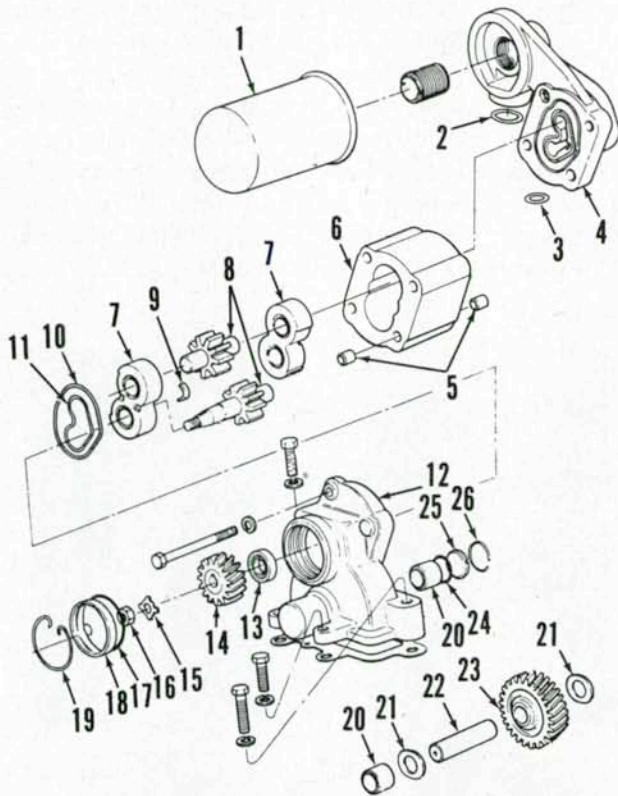
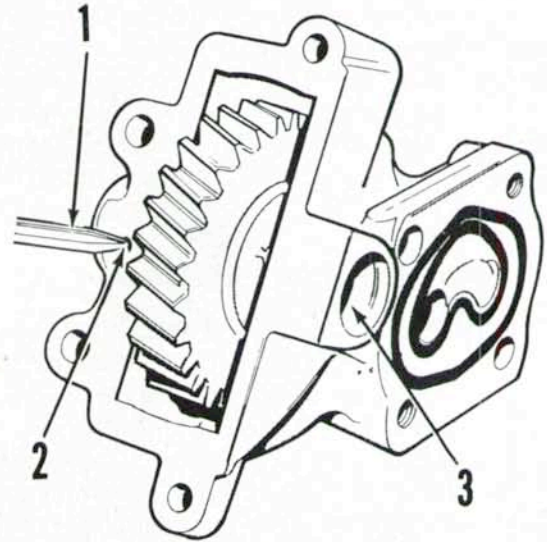
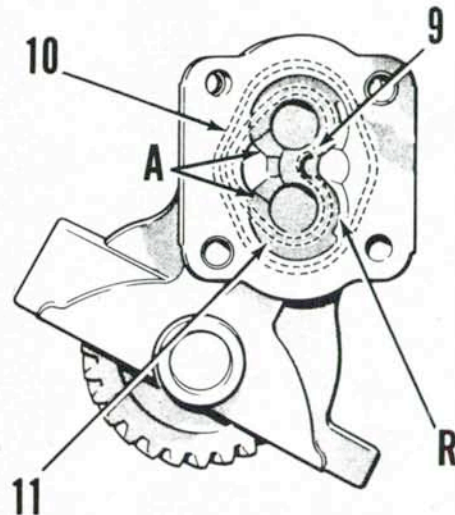

Fig. 319—Exploded view of auxiliary hydraulic pump assembly.
Fig. 320—If necessary, idler shaft plug (3) can be removed from housing by applying compressed air at bleed hole (1).
Fig. 321—When reassembling pump, be sure that recess (A) on bearings faces the gears and radius (R) is on outlet side of pump.
**238. OVERHAUL PUMP.** Prior to disassembly, scribe alignment marks on gear housing (12—Fig. 319), pump body (6) and end cover (4) to ensure correct reassembly. Remove pump inlet filter (1). Remove retaining ring (19) and plug (18) from gear housing (12). Hold the idler gear (23) in a vise, then remove drive gear retaining nut (16) and tab washer. Remove four retaining cap screws and separate gear housing and rear cover from pump body. Reinstall retaining nut on pump shaft, then tap end of shaft with a soft mallet to release drive gear (14) from shaft taper. Keep bearings (7) and gears (8) in order as removed.
To remove idler gear (23), first remove retaining ring (26) from gear housing. Bump the housing on a wood block to remove plug (25) from housing. If plug fails to fall out of housing, compressed air can be directed into bleed hole (2—Fig. 320) to force plug from housing. Remove idler shaft (22—Fig. 319), gear (23) and thrust washers (21).
that recess (A—Fig. 321) on face of bearings is toward the gears and that relieved radius (R) is facing outlet side of pump body. Stuffer strip (9) must be positioned against pressure loading ring (11) on outlet side of pump. Lubricate all parts with hydraulic oil. Be sure that idler shaft plug (25—Fig. 319) is installed with slotted face toward the shaft. Tighten pump body retaining cap screws to a torque of 35 ft.-lbs. (47 N·m).